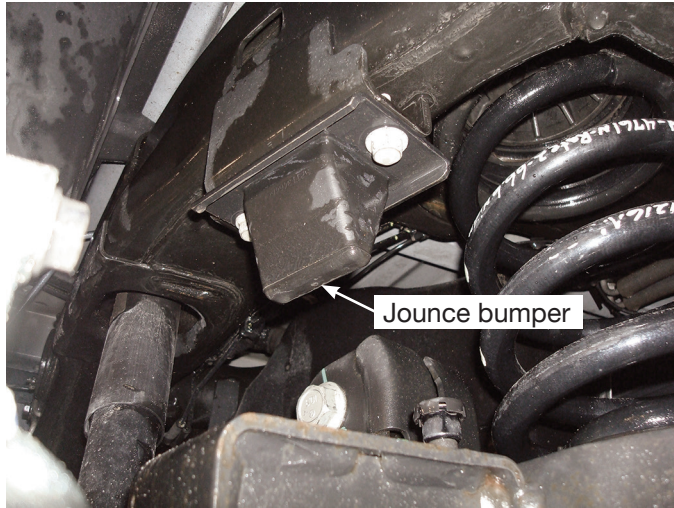

Fig. 5
- Remove the left and right side jounce bumpers (Figs. 5 & 6).